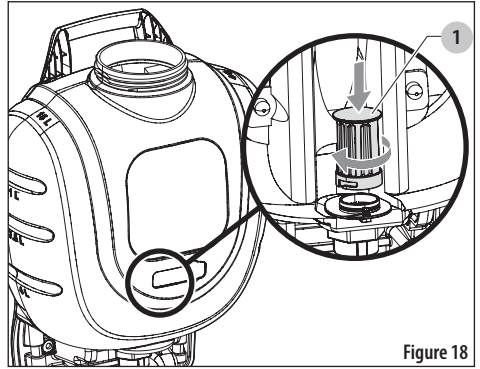

Figure 18
9. To re-install the in-tank filter (1), gently set it back over the filter base in the bottom of the tank, and slowly turn the filter clockwise until the locking tabs on the filter base align with the grooves in the filter. The in-tank filter will drop downward approximately 1/8 in. when this happens.
10. Push down on the in-tank filter until it stops, approximately another 1/4 in., then turn the in-tank filter approximately 1/8 turn clockwise until it stops. See Figure 18.